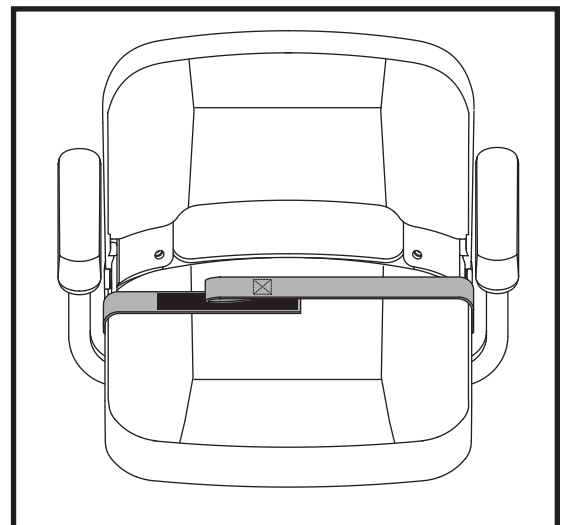

Figure 30. Positioning Belt - Reusable Hook and Loop Fastener Style
1. Align the two sides of the belt placing the looped-end side directly above the coarser side (“hook”) of the opposite belt. Press firmly together to fasten. **See figure 30.**